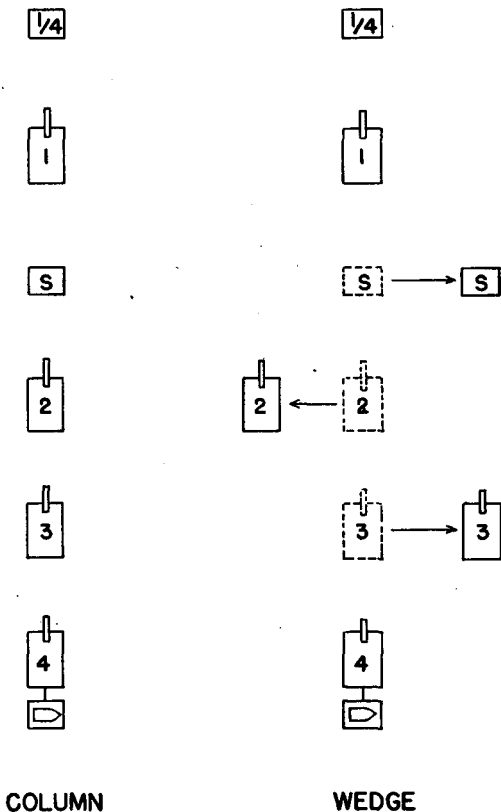

FIGURE 38.—Tank destroyer platoon.
f. Tank destroyer platoon.—(1) *Column* (fig. 38).—Order of march: the $\frac{1}{4}$ -ton vehicle preceding or to the flank, reconnoitering and observing at a distance of 500 yards or more, utilizing terrain; the platoon commander's destroyer; security vehicle; second, third, and fourth destroyers. The last destroyer tows the ammunition trailer when contact is imminent; the trailer may be left in a concealed position when action is begun.
(2) *Wedge* (fig. 38).—Same as column except that the second and third destroyers are echeloned to the left and